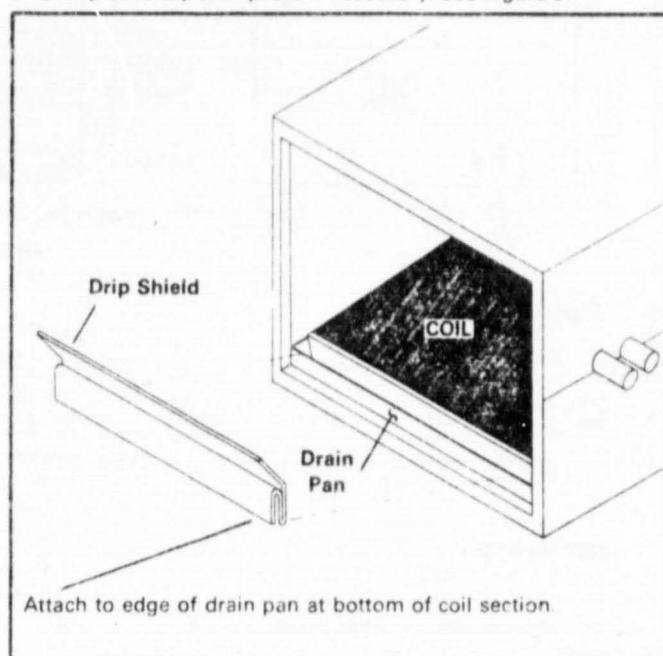

FIGURE 5
- 2 - Crimp securely with pliers if necessary. See Figure 5.